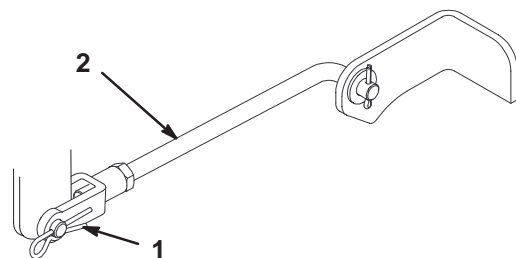

Figure 41
3. Remove the hairpin cotter and clevis pin from the front trunion yokes (Fig. 41).
6. Attach the front trunion rods to the tractor with the clevis pins and hairpin cotters (Fig. 41).